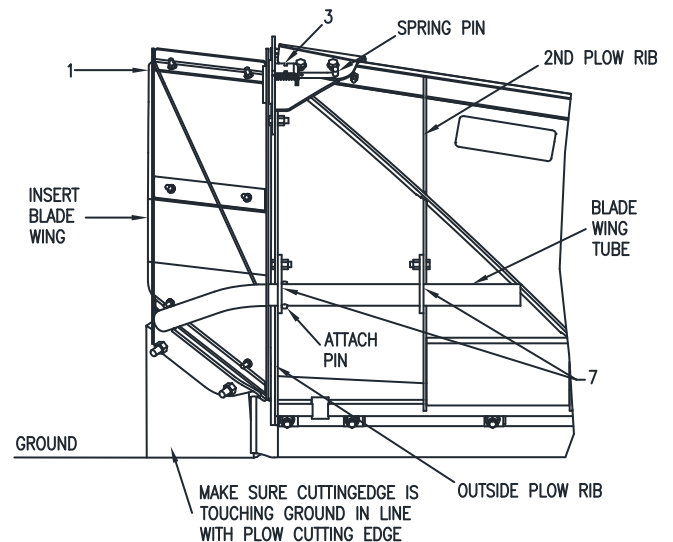

Figure 3. V-XT & DXT Wing Extension Assembly G10574
- 9) Insert Driver Side Blade Wing (1) into plow rib Brackets (7). See Figure 3.
- 10) Slide the driver side wing (1) in until the attach pin passes through first plow rib bracket (7). See Figure 3.